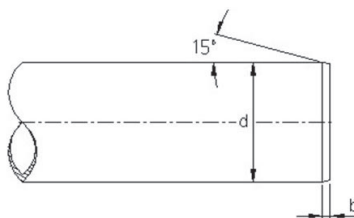

Figure 1. PVC-C pipe-fitting measurement b.
- The pipe ends are chamfered on the outside using an angle of approximately 15° (see Figure 1 and Table 1), and deburred on the inside.